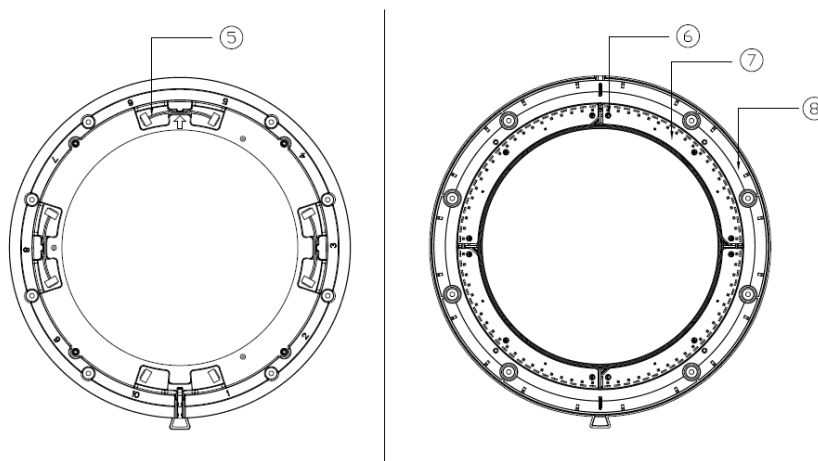

Figure 11-2
As shown in Figure 11-2, remove the 3 DuPont cables (5) from the back of the Main Body Support-Down, remove the 12 screws (6) from the front, and remove all illumination board (7) (RVM100-ILL-WHITE) and the Main Body Support-Down (8) (RVM100-MBS-DW). The specification of the screw is the self-tapping screw, ST2*6mm.